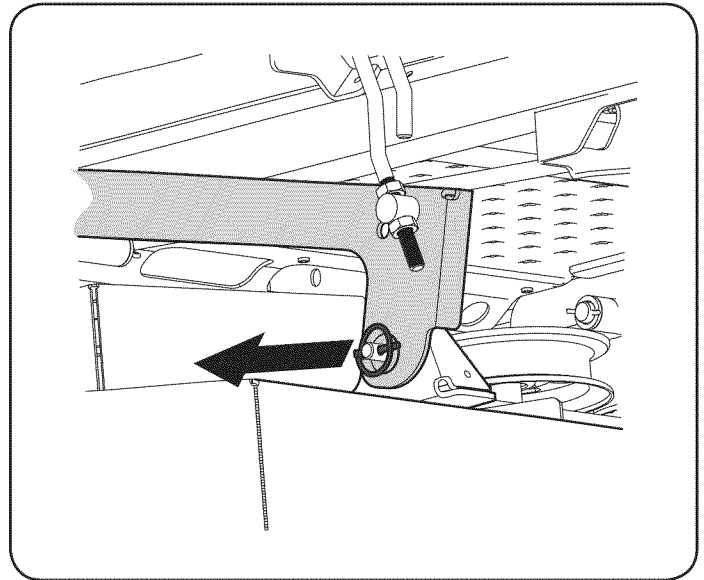

Figure 36
6. Locate the LH and RH deck release pins on each side of the deck. Pull the release pins outward and release the deck from the LH and RH deck lift arms. See Figure 36.
5. Pull the deck release pins outward and maneuver the deck as necessary to align the holes in the deck lift arms with the pins. Refer to Figure 36.